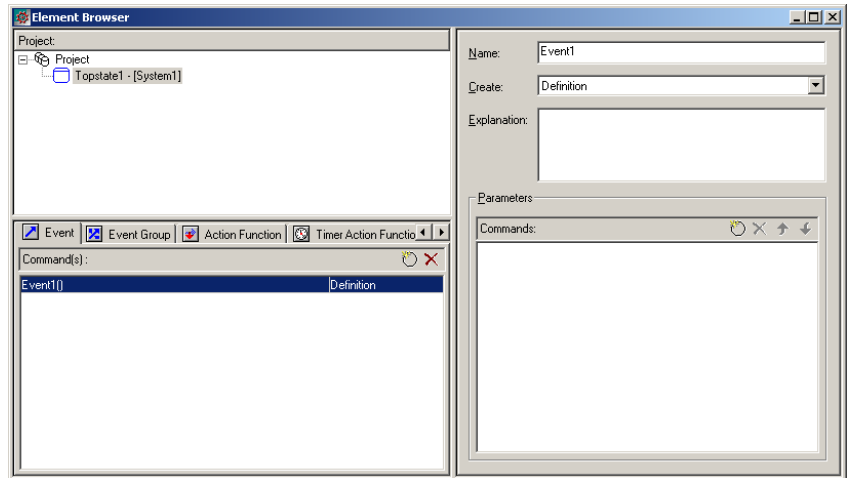

Figure 73: Designer element browser, with event created (local element)
- 5 On the Commands toolbar, click the New button () A new event with a default name is created in the list, and a corresponding edit window is displayed to the right. See example in *Figure 73*, page 90.
- 1 Open the element browser, click the Event or Action Function tab, and select the event or action function (see *Figure 73*, page 90).